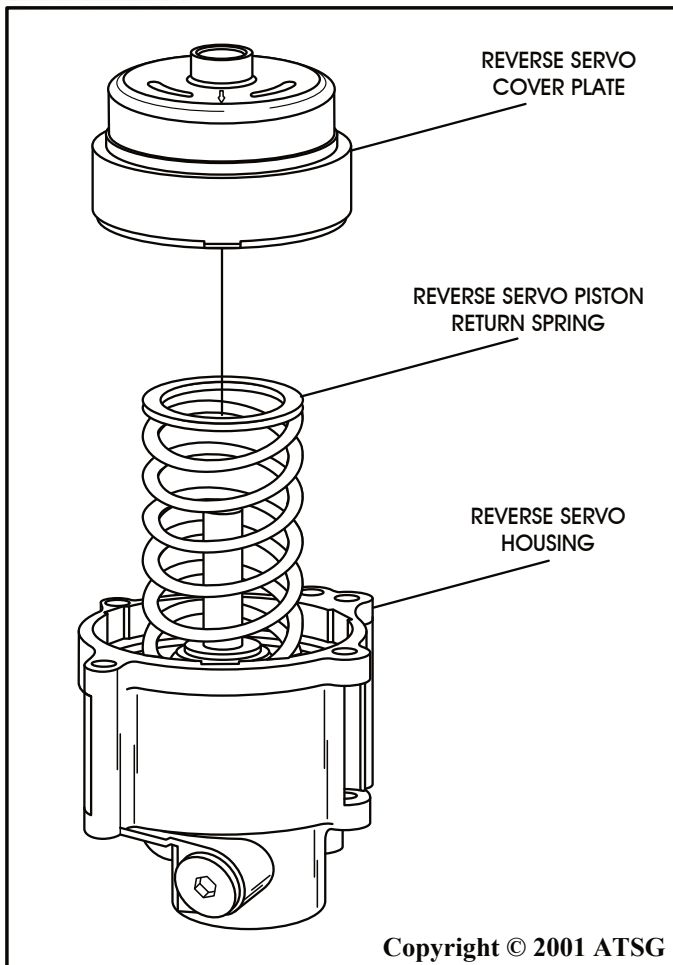

Figure 125
11. Install the reverse servo cover plate over the return spring, compress the return spring with the cover plate and rotate the tabs into position in the slot, as shown in Figure 125.